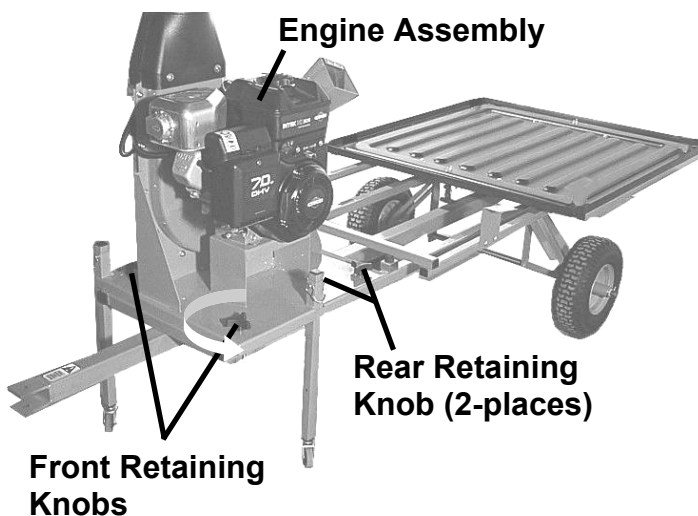

Figure 47
4. Remove (turn counterclockwise) the two Rear Retaining Knobs holding the engine plate to the trailer frame (Figure 47).
5. Hold the trailer tongue and remove the two Front Retaining Knobs (Figure 47), thus preventing the trailer from falling when the last knob is removed.